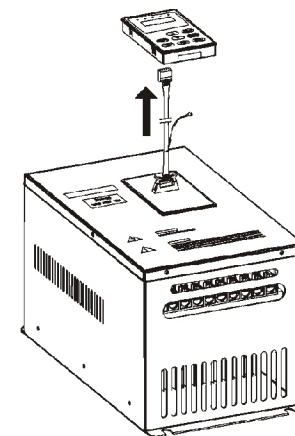

Fig. 3-15 Mounting Diagram of the operator panel and connecting wire of the inverter Model B
Step 5. Fix and fasten the dismantled operator panel, and put the other end of connecting wire into the socket of operator panel (as shown in Figure 3-15).